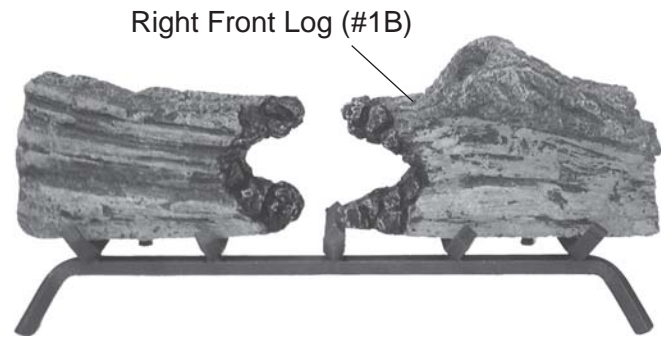

Figure 103 - Placing Right Front Log (#1B) on grate
3. Place Right Front Log #1B on front right of the grate. *See Figure 103.*